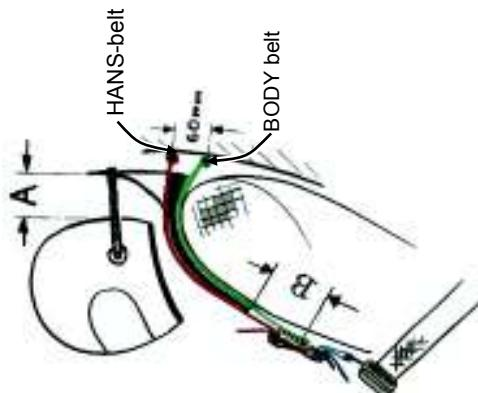

Figure 1
- The total of both numbers (**A** plus **B** in Figure 1) has to be 100 mm.
- b) Driver's head/helmet must be pulled forward until the tethers are straight. Measure the distance between the Head and Neck Support collar and the helmet = measure **A** in Figure 1.
- c) Subtract **A** from 100 mm = measure **B** in Figure 1. This is the minimum distance which must be achieved between the Head and Neck Support yoke tips and the belt merge.